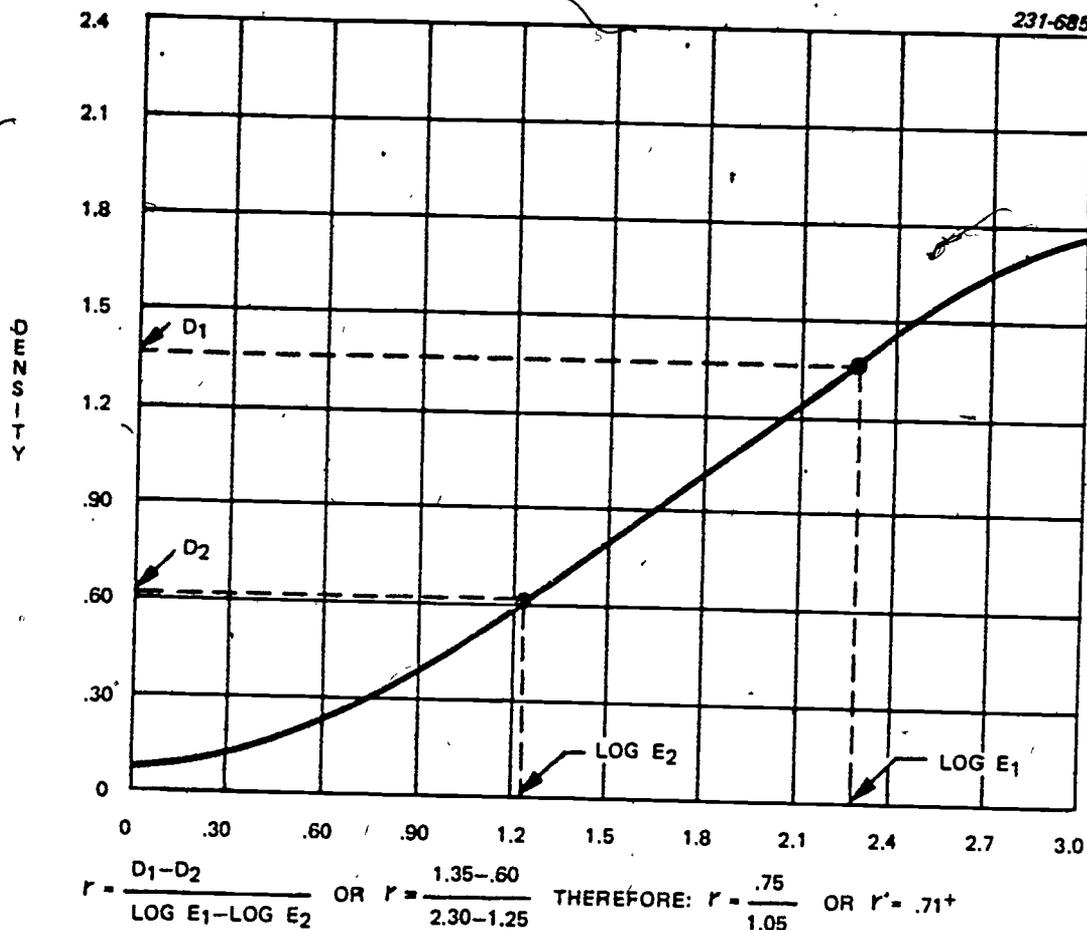

Figure 6-15. Basic method of gamma calculation.
(1) Basic method—this method, shown in figure 6-15, involves the ratio between densities and the exposures which produced them. Any two points on the straight line are chosen. (More reliability tends to result if the points are widely separated.) Gamma is the result of dividing the change, or difference in density,